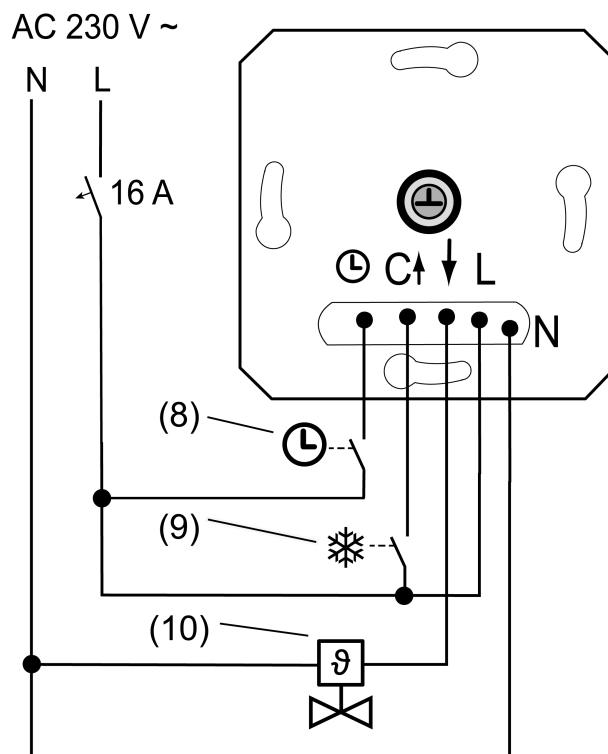
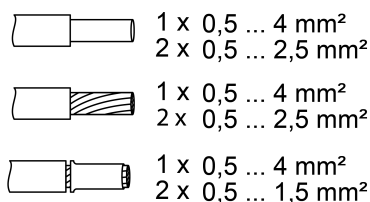

Figure 2: Connection example of the insert
Figure 3: Clampable conductor cross-section
- Connect electrothermal valve drive (10) to insert (1) according to connection diagram (Figure 2). Observe the conductor cross-sections (Figure 3).
- Optionally, connect the ECO operation input ⊖ via a switching contact of a central clock (8).